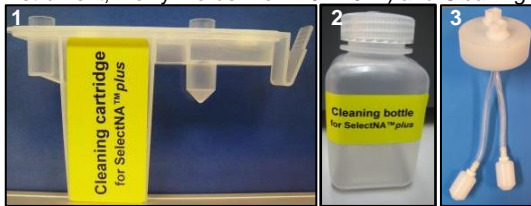

Fig. 28: *Cleaning cartridge* (1), *Cleaning bottle* (2) and lid (3).
1. Supplied material to be used: 4 *Cleaning cartridges* (Fig. 28; supplied with the instrument, Molzym order no. D-927-012) and *Cleaning bottle* (Fig. 28).
3. Load the four *Cleaning cartridges* (Fig. 28, page 37) into the rack of the *Extraction cartridges* (positions 1 to 4), place the rack into the instrument and fix on both sides with the black clips (see Fig. 17 and Fig. 18, page 28). Confirm the step with the 'Control button'.